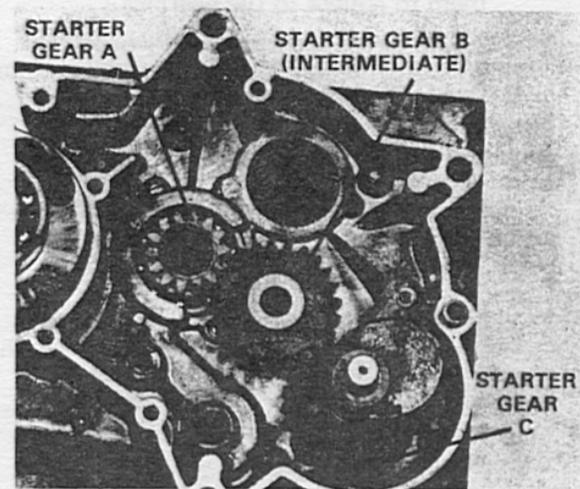

Fig. 13
47. Remove the kick starter intermediate gear which remains in the crankcase half after the transmission shaft assembly has been withdrawn. Note that there is a spacer above and below this gear. Keep these spacers with this gear to facilitate reinstallation. (Figure 13)
3. Reinstall the kick starter intermediate gear positioning the spacers above and below the gear. These spacers are identical and can be identified since the hole in the spacer is the same size as the hole in the gear. Place it in mesh with the kick idler gear and the kick starter shaft gear and oil the gears. (Figure 13)
4. We are now ready to install the transmission shaft assemblies and the shift drum-shift fork assembly. Before doing so, familiarize yourself with the positions into which the various shafts and the shift drum will be inserted by studying Figure 13. The splined end of the countershaft (the shaft with the smaller gears) will be inserted through the kick idler gear, the gear that is pressed into the countershaft bearing. The end of the drive shaft will be inserted into the kick starter intermediate gear, the one which was installed with the spacers above and below it. The splined end of the shaft will point up and the small sprocket will be attached to it when the crankcase sections are joined. The large diameter end of the shift drum will be inserted into the large hole in the casting located directly above the kick idler gear and the kick starter intermediate gear.